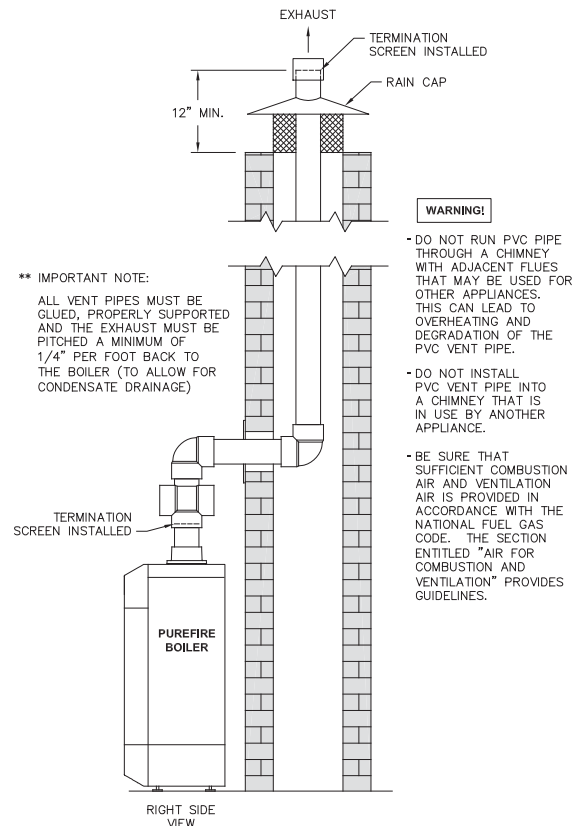

Figure 3.12: Venting with a Chimney Using Inside Air
- Figure 3.12 shows an option for routing the exhaust through an unused chimney with the combustion air supplied from inside the building. Be sure to note the requirements for combustion air as listed under Section 1.D. "Combustion and Ventilation Air". These requirements are in accordance with the National Fuel Gas Code.